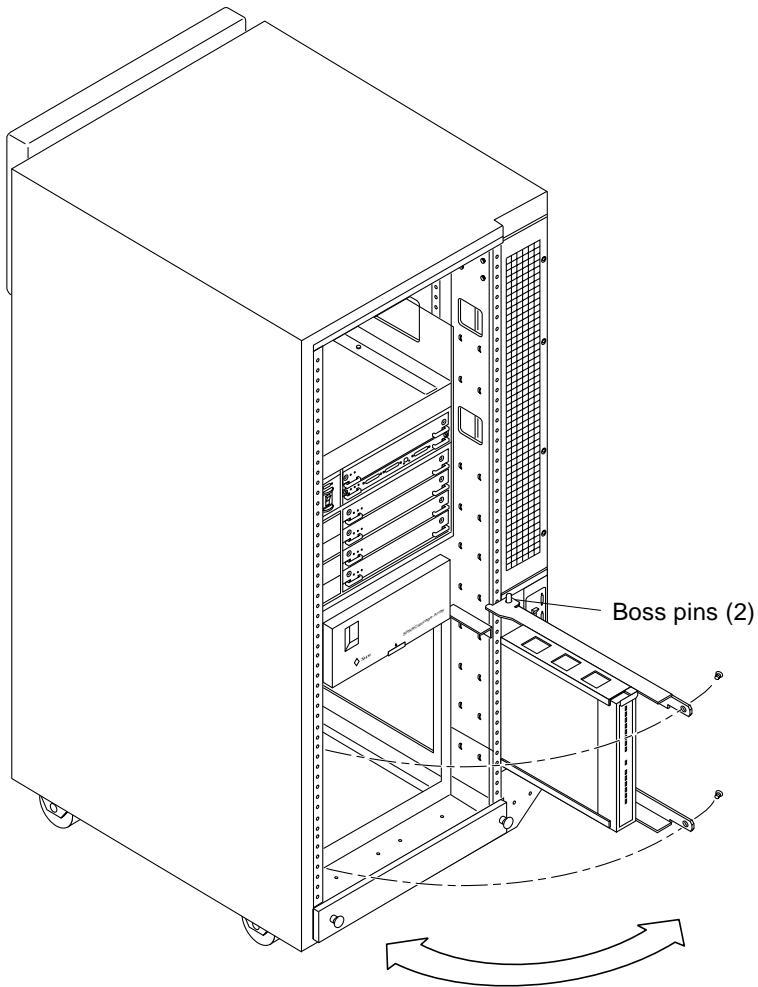

FIGURE 2-3 Terminal Concentrator Bracket Installed on the Hinge
- a. Turn the terminal concentrator bracket on its side so the hinge holes and cable connectors face toward the bracket hinge (see FIGURE 2-3).
4. **Close the terminal concentrator bracket, and install screws in holes 8 and 29 on the left-side rear rail of the cabinet (see FIGURE 2-3).**